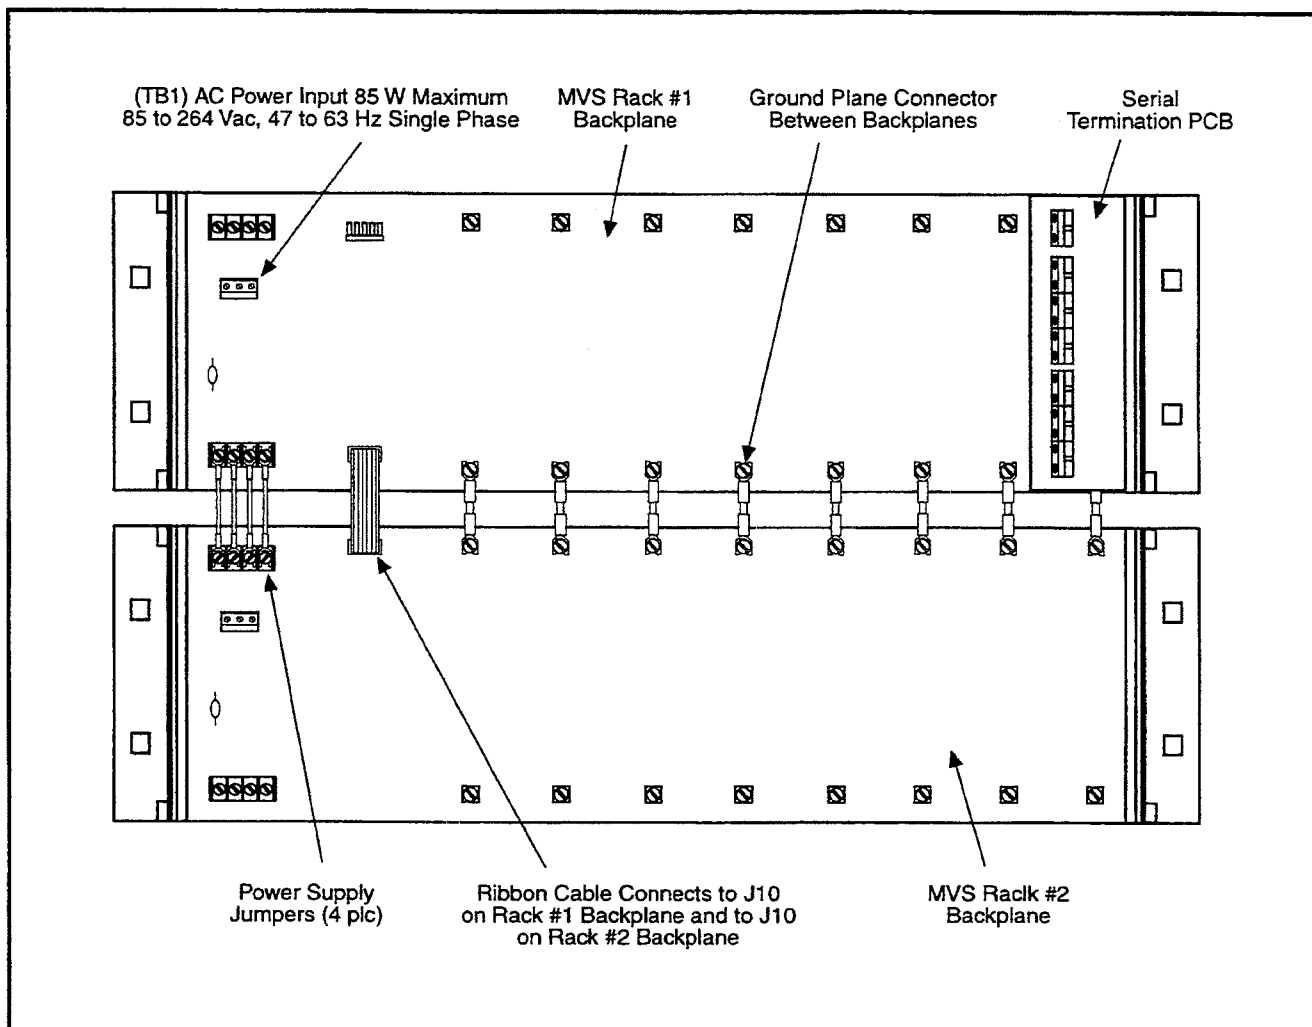

Figure 2-2. Connecting Multi-Vessel System Racks Together.
5. Connect the eight ground plane connectors provided by the factory between MVS Racks #1 and #2 as shown in Figure 2-2.
6. Plug one end of the factory-provided ribbon cable into J10 on the backplane of MVS Rack #1 and the other end into J10 of MVS Rack #2 (Figure 2-2).
7. Connect four jumpers from J13 of the rack with the power supply to J12 of the rack directly below it as shown in Figure 2-2.
1. Route the cable from the power source to TB1 on the Backplane PCB of MVS Rack #1. (Refer to Figure 2-2 for TB1 location.)